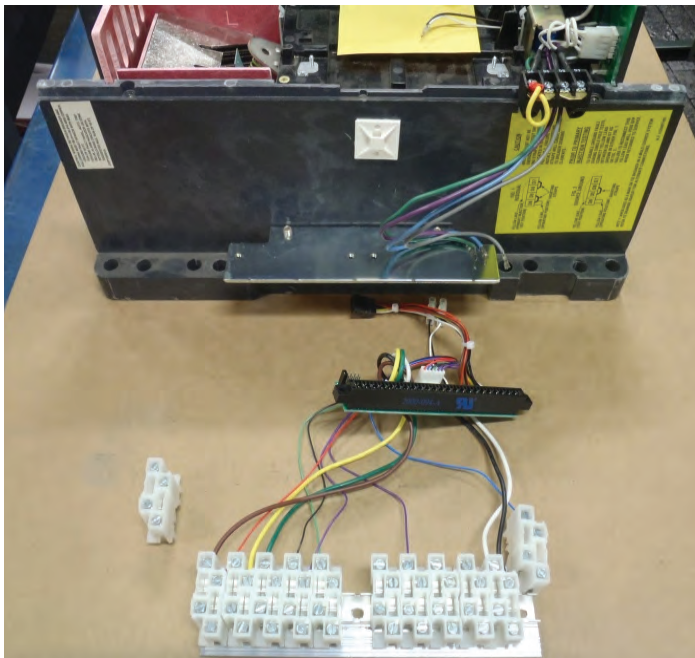

Figure 10. Pre-wired Edge Connector Board and C/D Terminal Block Assembly – As Supplied with RG Retrofit Kit.
Note: Figure 10 shows an R-Frame G Series (RG) Retrofit Kit supplied pre-wired edge connector board and C/D terminal block assembly.